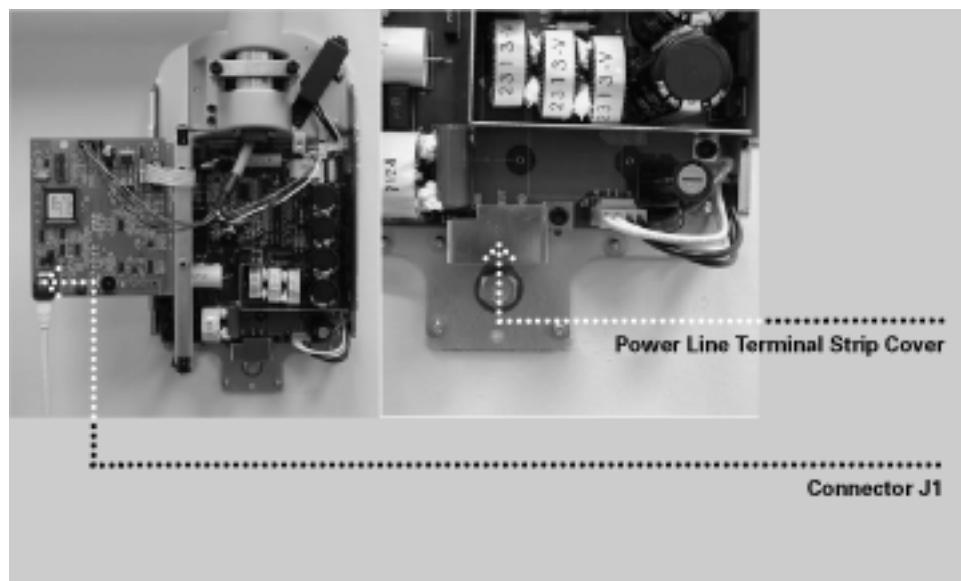

Figure 27
1. Using a 3 mm Allen wrench, remove the power line terminal strip cover at the base of the Power Supply Control Board to gain access to the power line terminal strip, as shown in *Figure 27*.
3. Plug the other end of the cable into connector J1 on the Power Supply Control Board 30-08160, as shown in *Figure 27*.